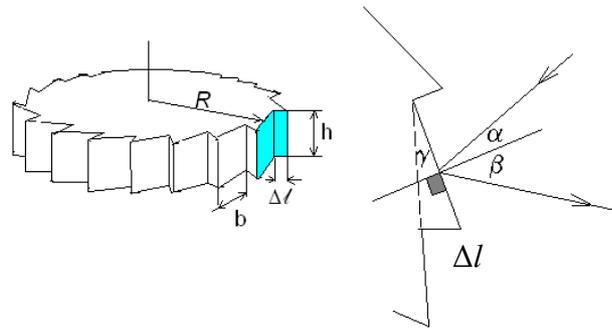

Figure 1. The saw tooth of the rotating disk
- A sound wave from the Source reflects to saw tooth of the rotating disk (Figure 1) and the Doppler effect will occur. If we denote as v the velocity of motion of the saw tooth in R direction, obtain a formula for f in terms of f_0 , c and v , for this case. Make it sure in the experimental setup, an angle dependence is negligible, or an incident and a reflected angles should be less than 5° .